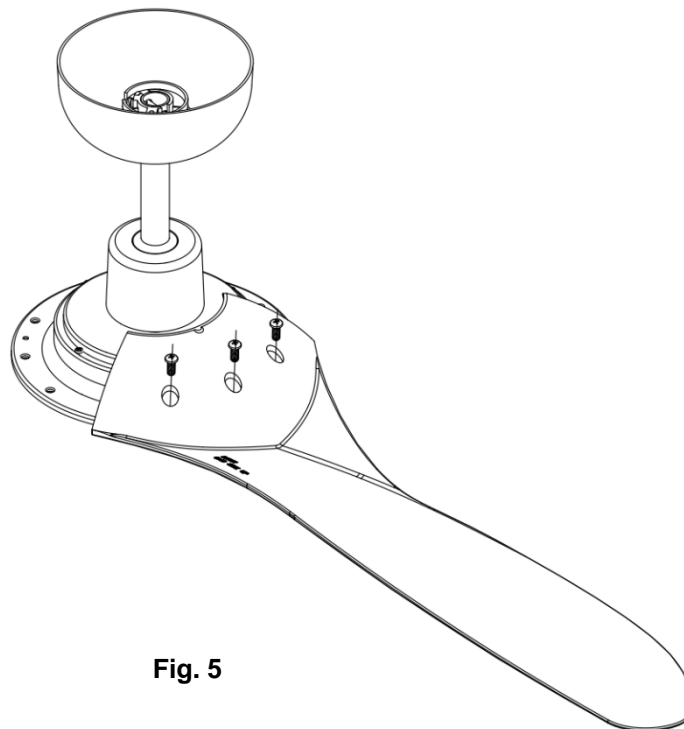

Fig. 5
- Align the 3 mounting holes on the blade to the 3 mounting screw holes on the motor and secure using 3 blade screws. Ensure the screws are tightened equally and evenly to reduce the chance of warping or unbalancing. Take care not to over tighten the screws as this can damage the blades. (Fig.5)